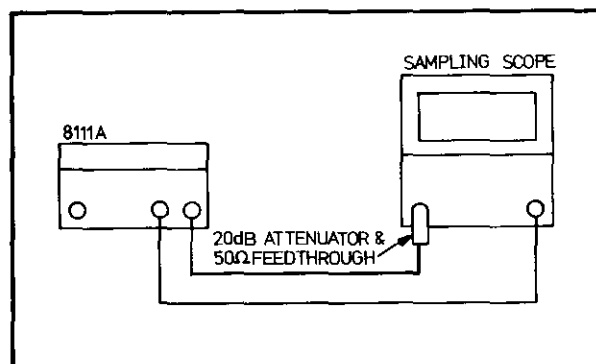

Figure 5-2
30. Connect 8111A output to sampling scope as shown in Fig. 5-2